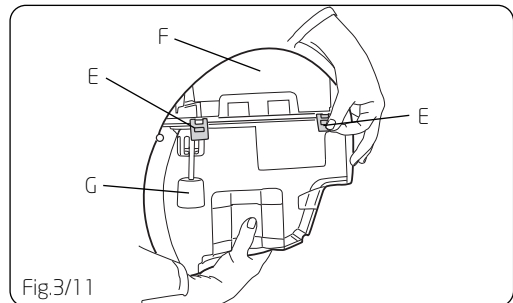

Fig.3/11
Replace lid. Secure both latches (E) (Fig.3/11).